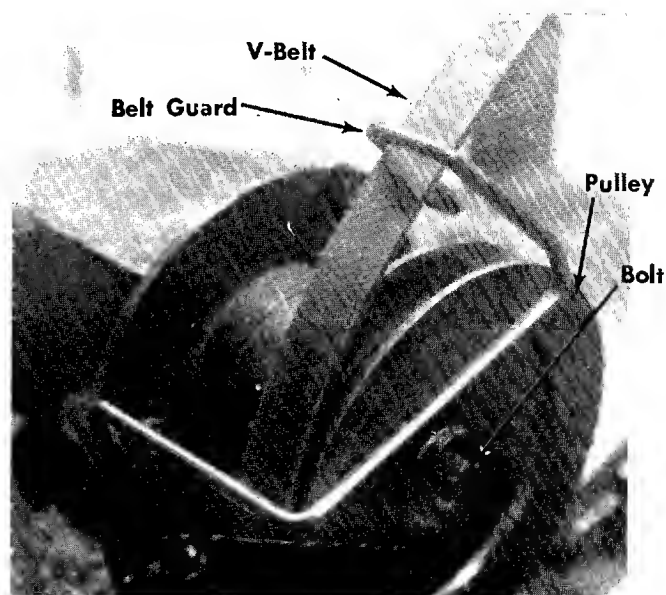

FIGURE 32. DECK DRIVE BELT
Step 1. Remove the belt guard over the belt. See figures 32 and 33.